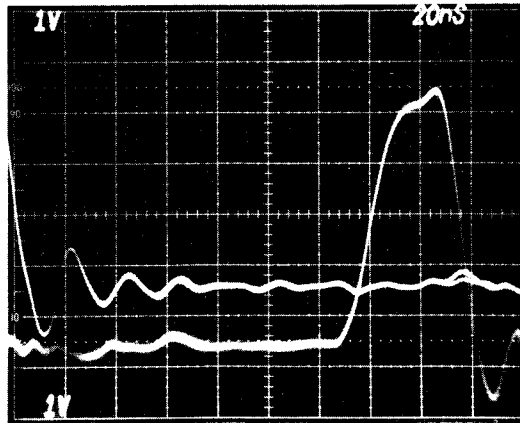

Fig. 2-7. Typical READ and STROBE waveforms observed during adjustment of R34 on P7001 Core Memory assembly.
e. Position both test oscilloscope waveforms vertically so the 50% amplitude point on the pulses is at graticule center. Use the time base Position control to set the falling edge of the channel 1 READ waveform on the graticule mark at the left edge of the screen. See Fig. 2-7.